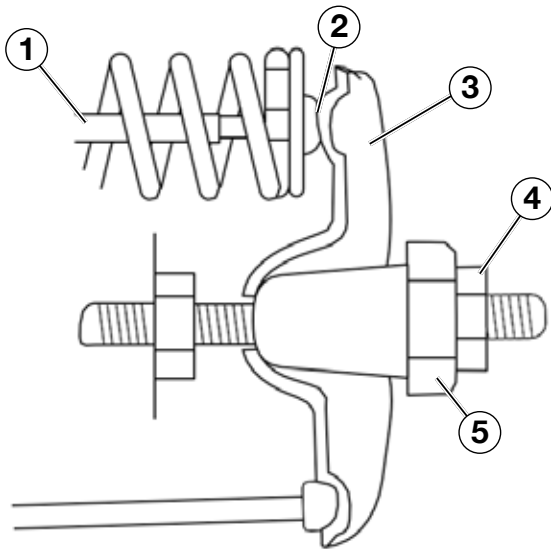

Figure 23
5. Insert a feeler gauge between the rocker arm and the push rod and check for clearance (see Figure 23). See Table 2 for valve lash specifications